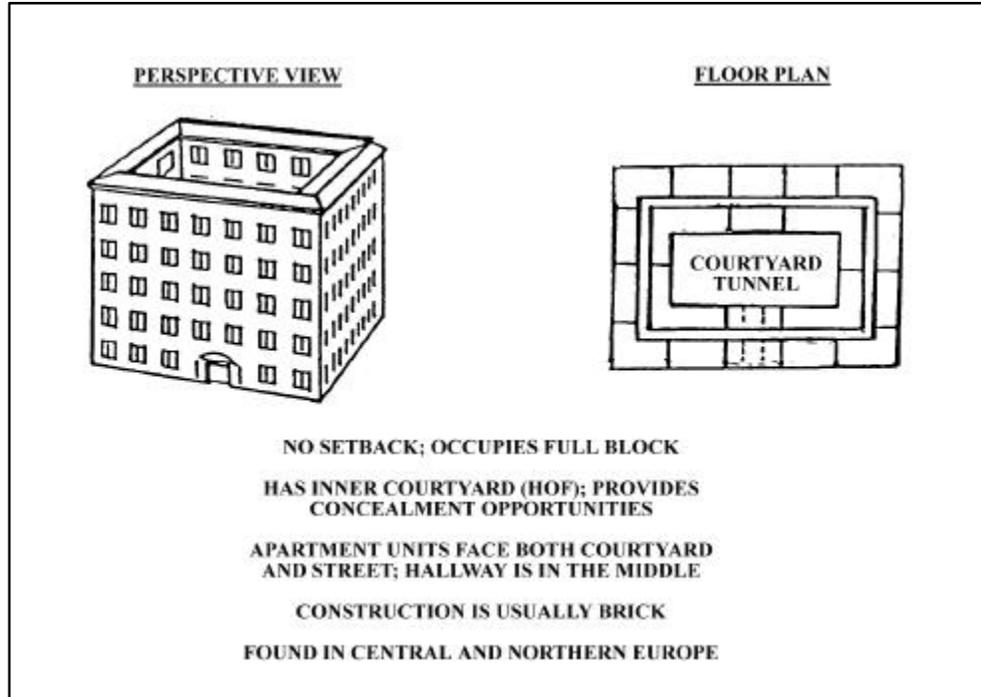

Figure I-19. Hof-Style Apartment Building
- a. Another common type of building structure in cities with European influence is called the Hof-style apartment building (Figure I-19).